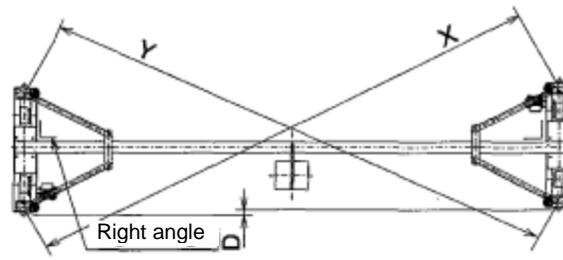

Fig. 4
- (b) Precautions in installation (Refer to Fig. 4).